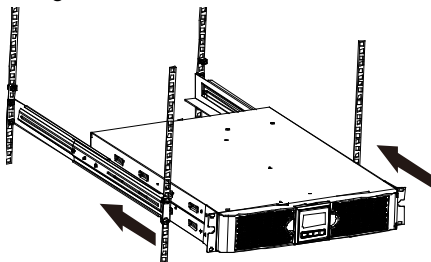

Fig 6
3. Slide in the UPS into the rack rail and lock it in the rack enclosure. (Fig 6)